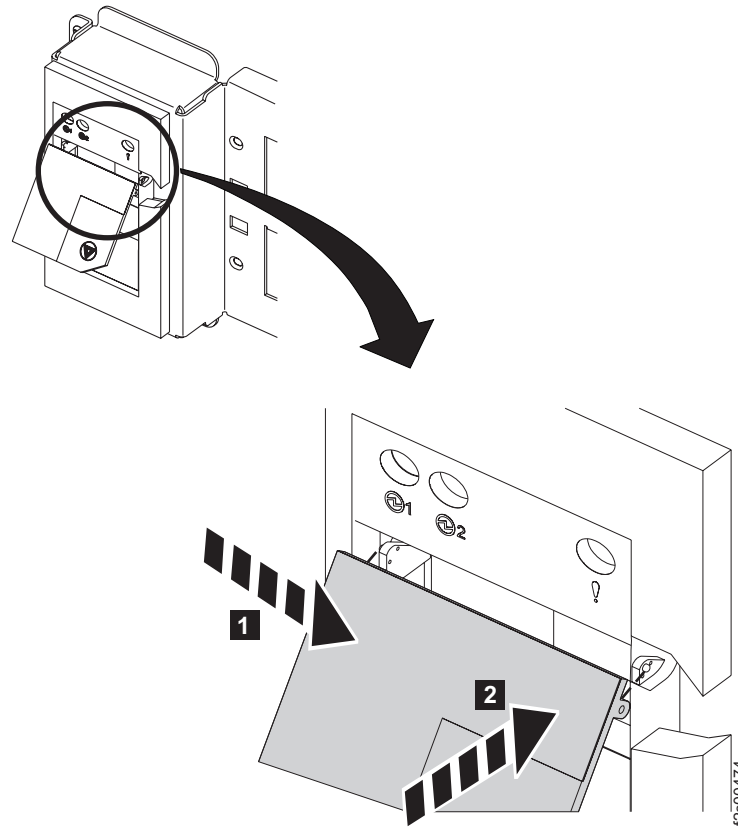

Figure 8. UEPO cover
3. Ensure the rack operator panel UEPO switch clear access cover is present. Some racks may be shipped with the cover removed and stored in a plastic bag in the document enclosure above the rack operator panel. The cover pivots on two small tabs at the top of the cover. To install the cover engage the left side tab **1**, push the cover gently to the right and then engage the right tab **2**. See Figure 8.